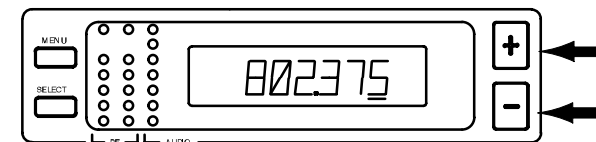

FIGURE 19
4. Press the "+" or "-" button to increase or decrease the setting in incremental steps until the desired frequency is reached. See Figure 19.